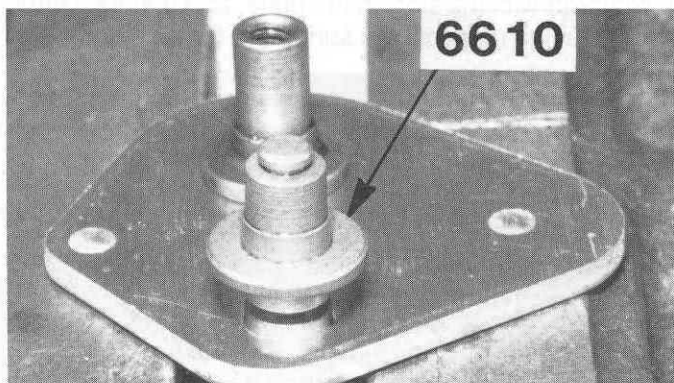

Fig. 32
□ **Fig. 32** Take the #6610 idle gear pivot and gently tap it all the way into the aluminum plate, again making sure that the flange touches all the way around.